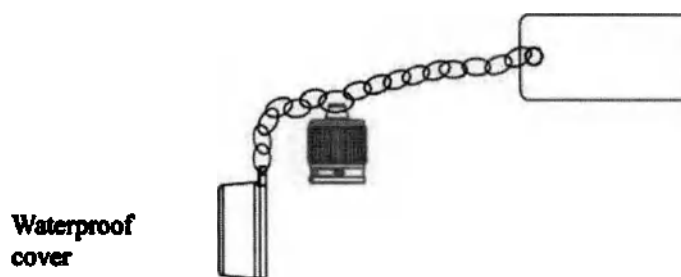

Fig 7.1
Prior to cleaning and disinfection, prepare the equipment shown in Fig 7.1.
1. When cleaning and disinfection, the Waterproof cover must be attached to the electrical connection part above the endoscope. (Fig 7.1)